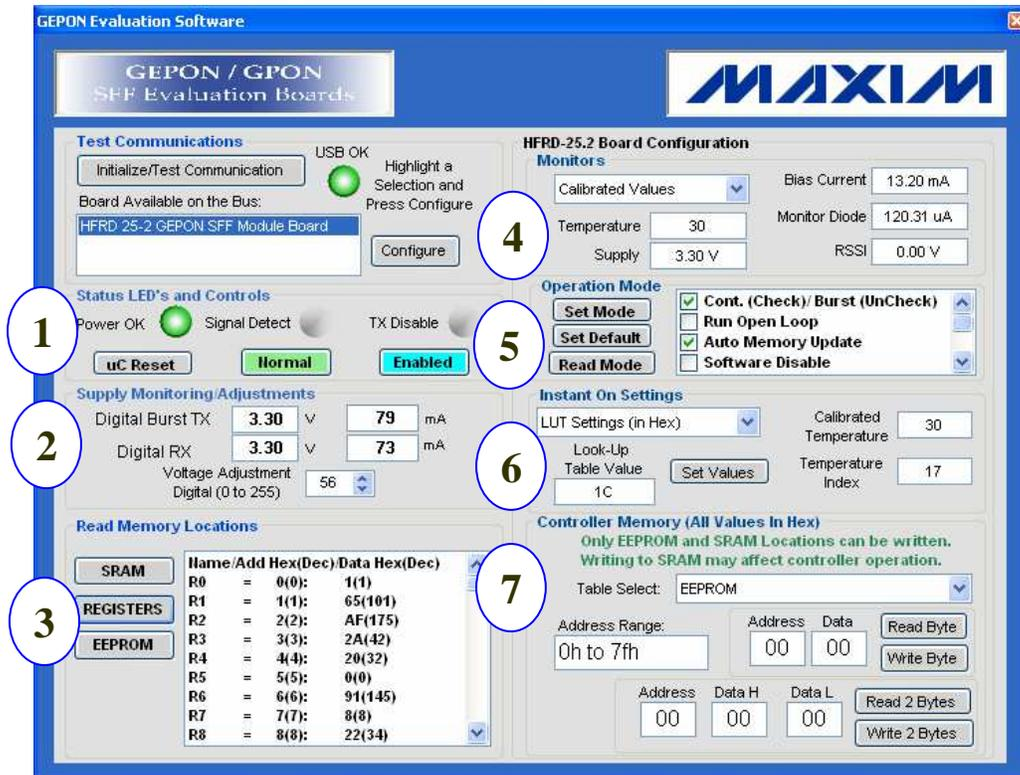

Figure 3. Overview.
8. Press Initialize/Test Communication. If everything is connected correctly, a screen similar to that shown in Figure 3 should appear. Wait to enable the driver until the proper mode of operation (see HFRD-25.2 document) is set and the remaining connections are made.
1. **Initialize/Test Communication:** Pressing this button resets the GUI interface and initializes a test sequence to determine if the HFRD-26.0 host board and HFRD-25.2 module board are attached correctly. If the software can communicate with both boards, the features shown in Figure 3 are available to the user.